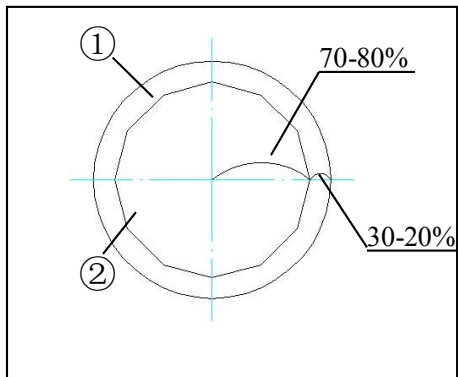

Fig 11
3.1.9 Using the aperture diaphragm (fig 11)
- To recognize the aperture diaphragm, you could remove the eyepiece if necessary (You also could insert in the center telescope), then looked into the viewing tube, you might see a field of view like the figure shown. The proportion could be changed by dialing the aperture adjustment lever according your need. (① is the image of the aperture diaphragm, ② is the edge of the objective)